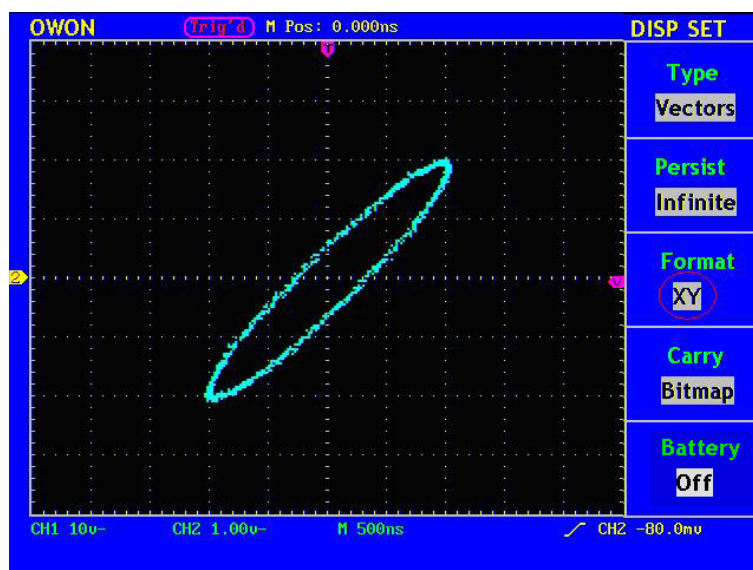

Fig.51 XY Display Mode
3. Press **F1** to set Vectors as type, **F2** to set Infinite for persist and **F3** to set XY as Format as shown as Fig.51